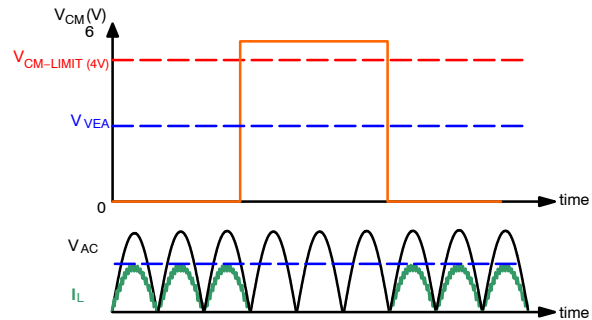
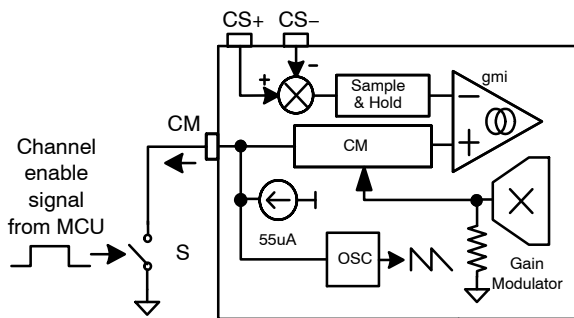

Figure 15. Channel Management by MCU
Figure 14. Channel Management by MCU
Channel Management (CM) function can also be accessed by an MCU through the connection shown in Figure 14. CM pins have internal pull-up current source. If $V_{CM} > 4V$, the channel is disabled. To enable the channel, make $V_{CM} = 0V$, as shown in Figure 15.